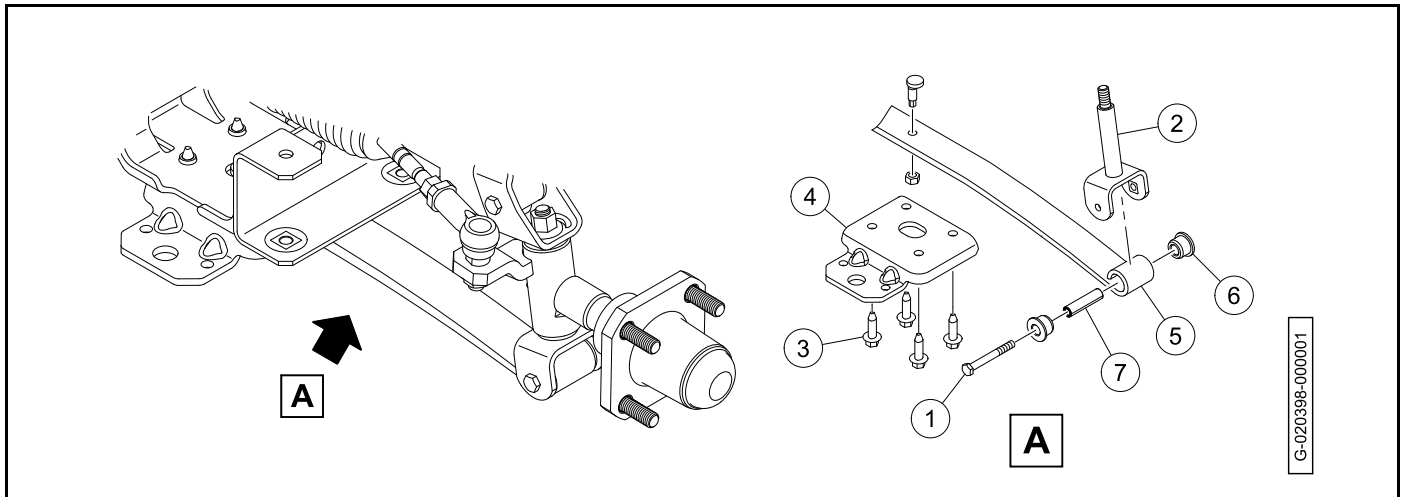

Figure 7-14
- Remove the bolts (1) from the bottom of each kingpin (2) (Figure 7-14).